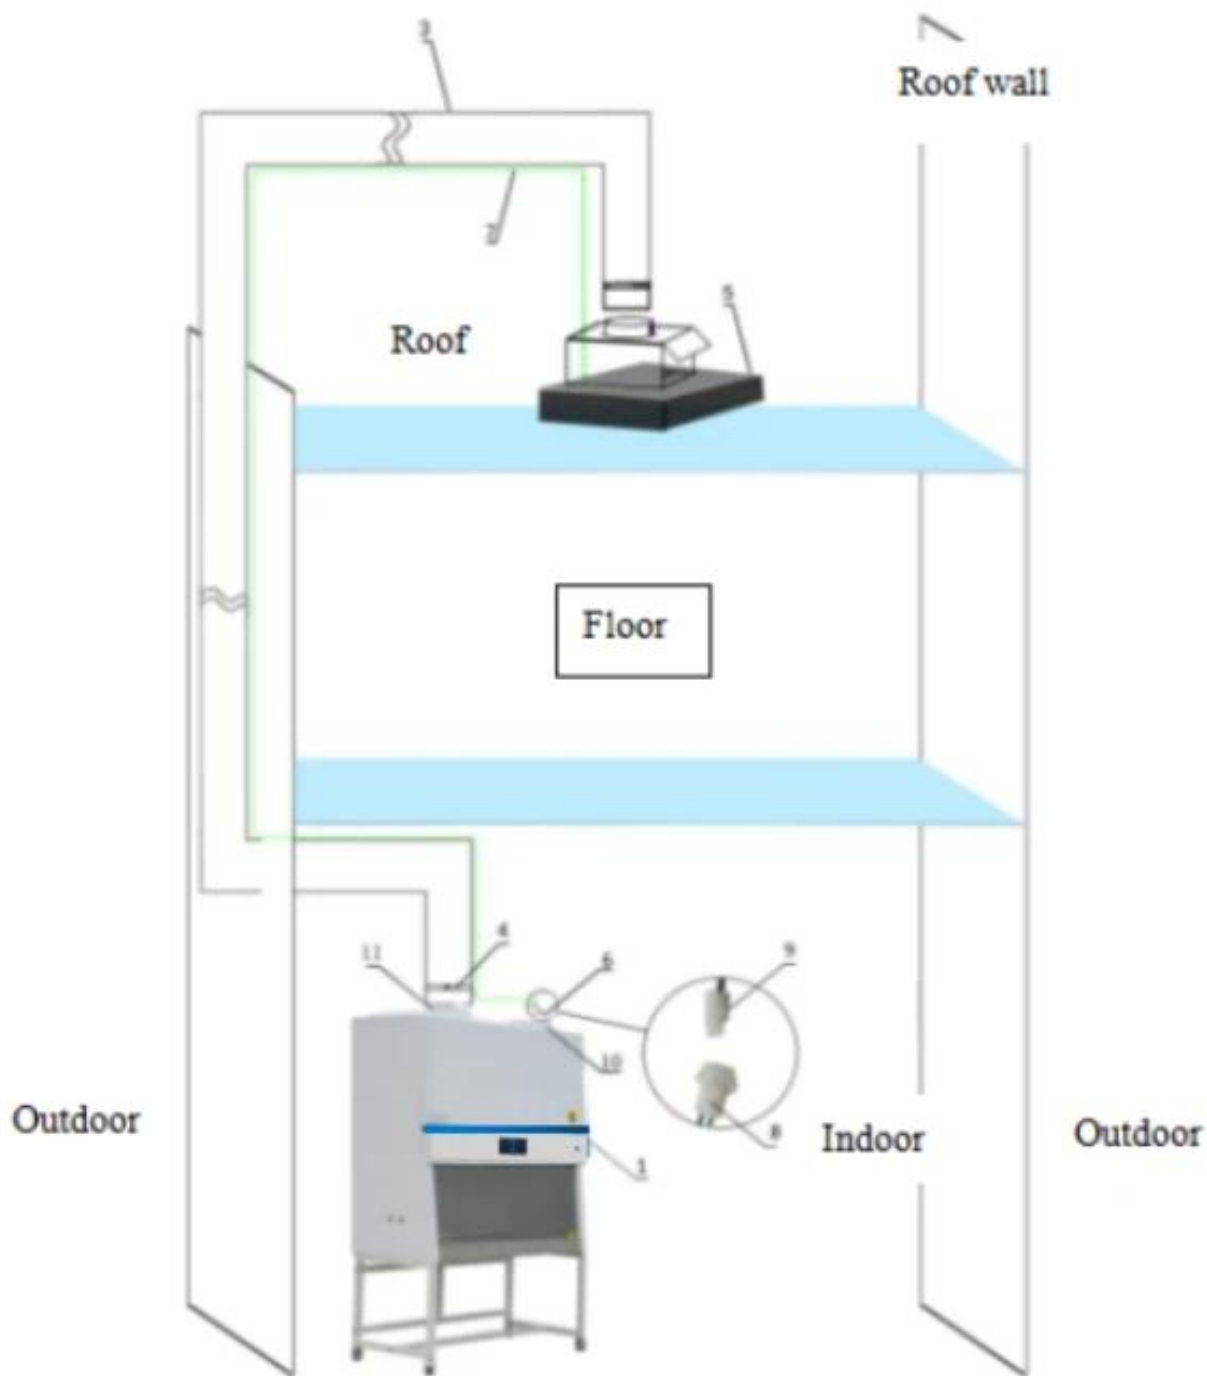

Fig 7
(1) After connecting the host to the base, place it in the original position.
(2) Place the external exhaust fan on the top of the building and find an external fan support (brick or wooden block support) to keep the outer exhaust fan and the roof floor 20cm high to prevent rainwater from immersing.
(4) Pull out the pipe and pull one end into the air outlet of the safety cabinet, as shown in Figure 7, tighten the pipe clamp.
(5) Extend the other end of the pipe through the outdoor, go to the top of the building, and connect the suction port of the external exhaust fan, as shown in Figure 7, tighten the pipe pipe clamp.
(6) The line of the external exhaust fan is routed along the pipeline, and the outlet of the external exhaust fan line is connected with the external exhaust fan line at the top of the host.